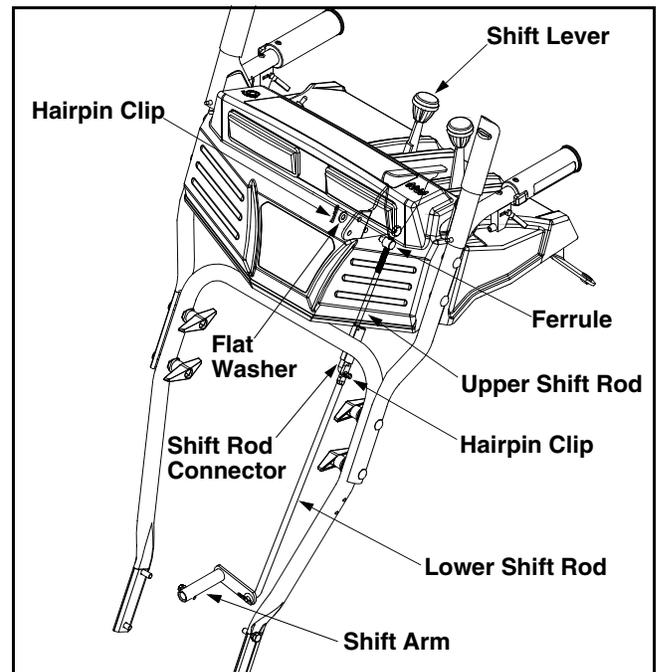

Figure 12
- Remove the hairpin clip and flat washer from the shift handle under the handle panel. See Figure 12.
- Place shift lever in sixth (6) position or fastest forward speed.
hole in the shift lever. See Figure 12.